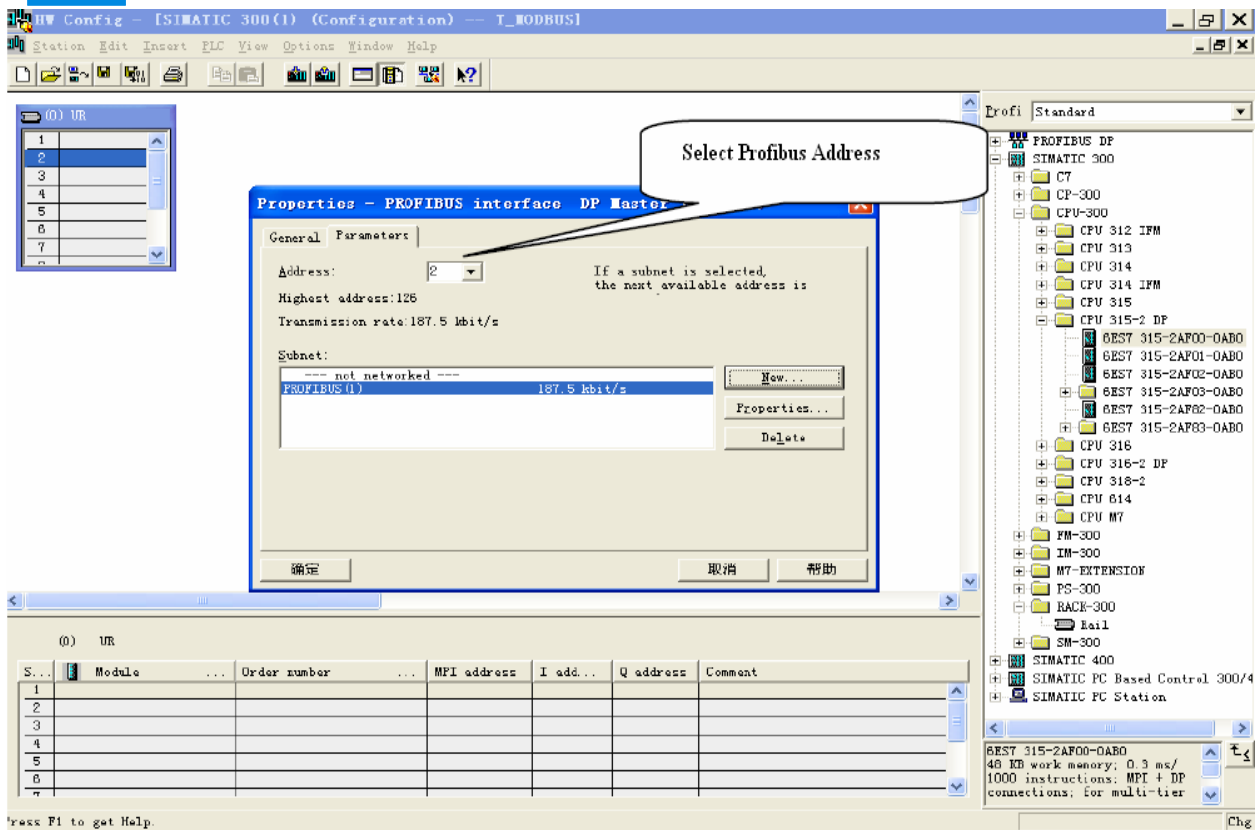

Figure 9
10. Select Profibus Master station address, Figure 9: